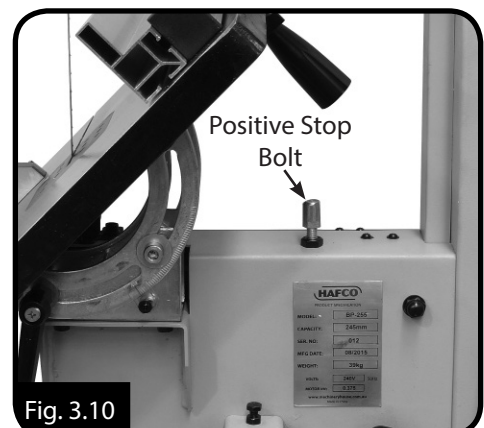

Fig. 3.10
5. Adjust the positive stop bolt to the table. (Fig. 3.10)